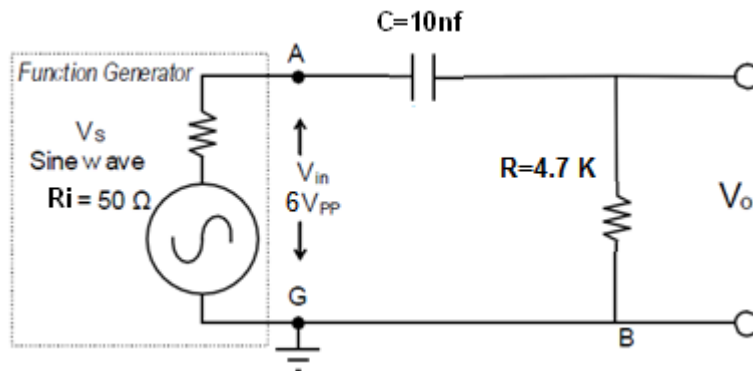

Figure 3
1. Set up the circuit as shown in Figure 3.